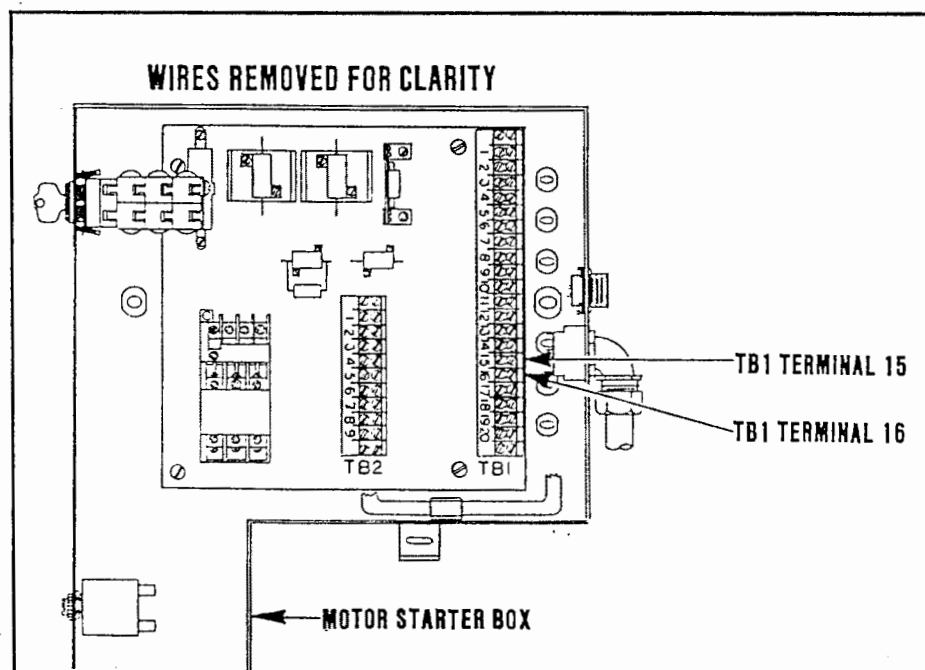

Figure 8.7 C
3. Check very carefully for broken or loose wires in the motor starter box, especially around TB1 terminals 15 and 16 (see Figure 8.7 C). If any broken or loose wires are found, repair them and then recheck the press.
4. Loosen screws on gray and orange lugs on TB1 15 and TB1 16. See Figure 8.7 C. Pull lugs off terminal block.